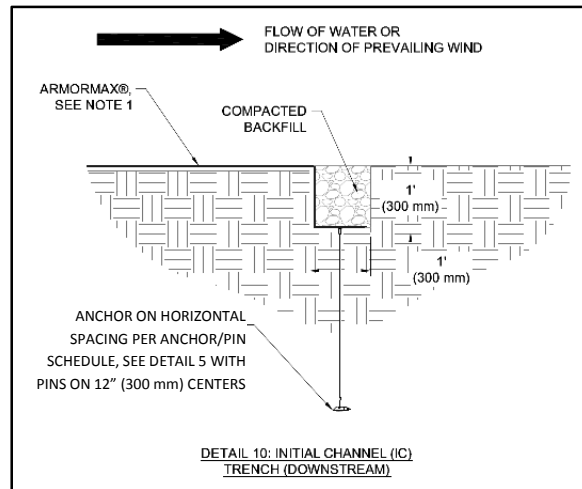

Figure 1: Initial Channel (IC) Trench
- Excavate an Initial Channel (IC) trench a minimum of 12 in x 12 in (300 mm x 300 mm) across the channel at the downstream end of the project (Figure 1). Deeper IC trench and/or hard armoring may be required for channels that have the potential for scour.